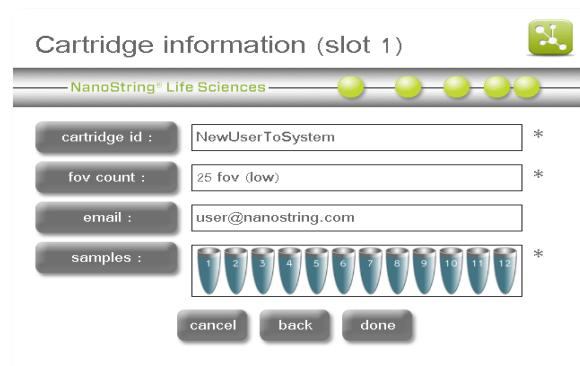

Figure 87: The ‘Cartridge Information’ screen, displaying details for slot 1.
- Select the CDF to be used and press **next**. The ‘Cartridge information’ screen will appear (**Figure 87**).